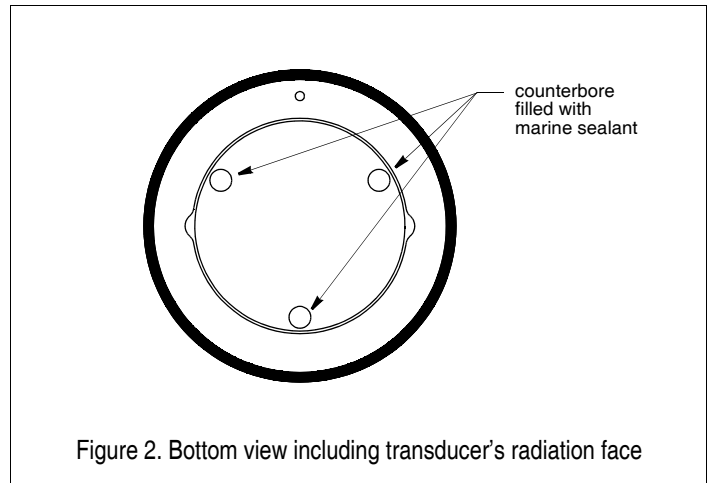

Figure 2. Bottom view including transducer's radiation face
9. Tighten each of the mounting screws using the hex wrench until the transducer is secured in the housing and does not move. The recommended tightening torque is 20N-m (15ft-lb). Fill the screw heads and counterbores with marine sealant until they are flush with the transducer's radiating face. Remove any excess sealant to ensure smooth water flow over the transducer (see Figure 2).